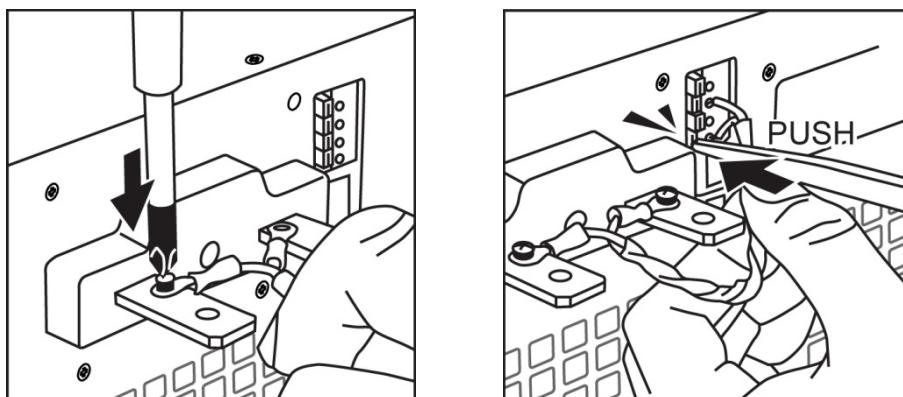

Figure 2-6
2. Figure 2-6 shows the correct connection. Use two wires to connect the positive and negative connectors of the load to the remote sensing connector on the rear panel. The